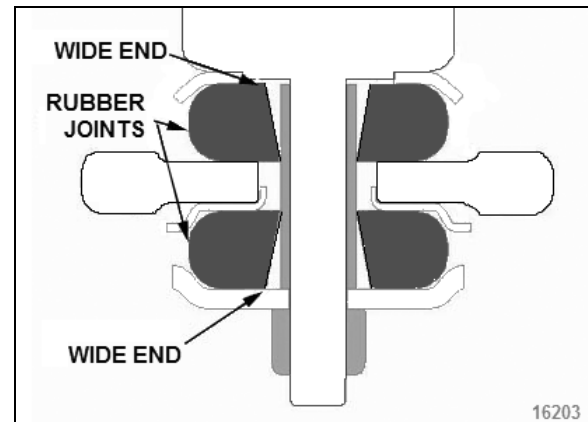

FIGURE 14: LOWER SHOCK MOUNTING BUSHINGS
3. On the lower mounting, take care to install the rubber joints with the wide end of the tapered hole as shown in Figure 14.